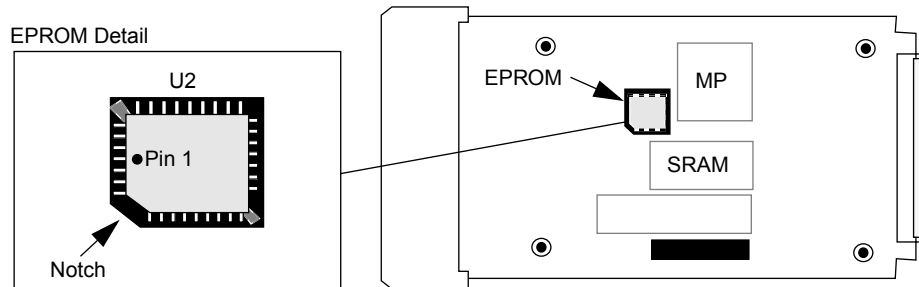

Figure 9.3 EPROM Location
6. For 485 communications with the last unit on the serial communications line, move jumper **JU3** to the **B** (or **TERM**) position. Installing the jumper in this position places a 200 ohm impedance on the line. Refer to *Figure 9.3 on page 205*.